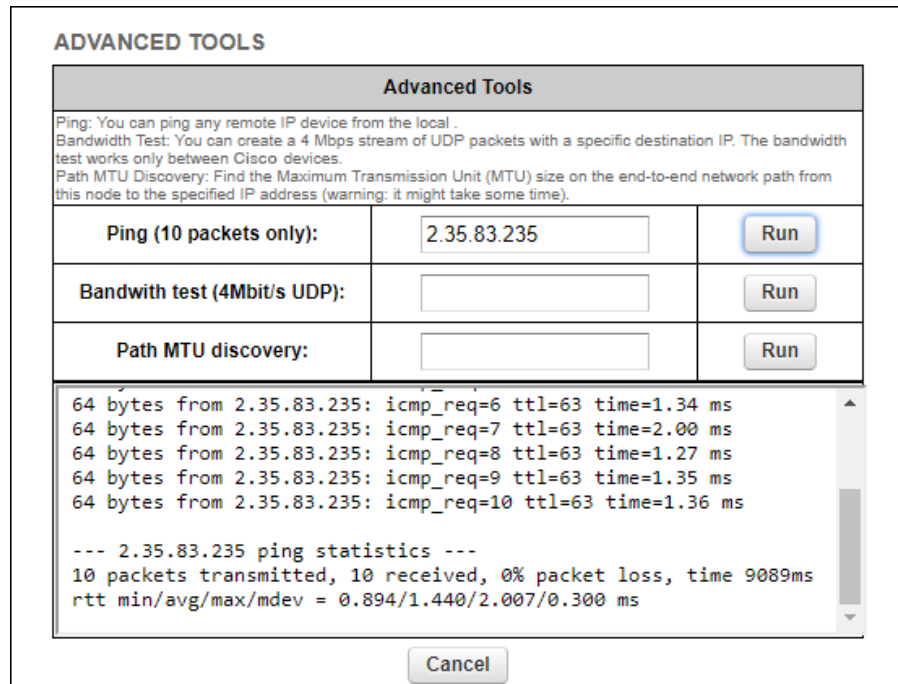

Figure 29. Advanced Tools window (Ping test tool)
2. Enter the IP address of the other unit in the **Ping (10 packets only)** field (Figure 29 \(page 90\)).